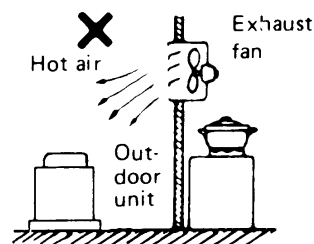

Fig. 4
- heat sources, exhaust fans, etc., Fig. 4